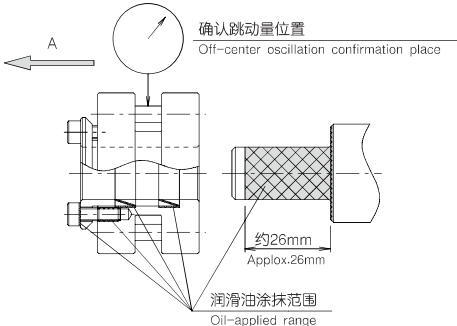

图2 / Fig. 2
2. 在轴的滚轮接触部分以及涨紧套的外径、锥面、锁紧螺栓的螺纹部、头部座面轻轻涂抹润滑油或者润滑脂 (图2)。
Lightly apply oil or grease to the contact pinion of the shaft with the roller pinion, the outside diameter and taper portion of the clamping tools, and the thread portion and head seat of the lock bolt(Fig. 2).